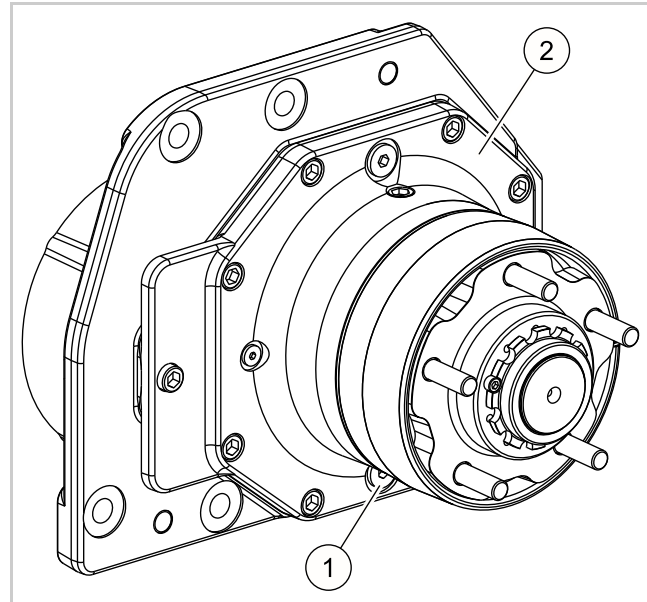

Fig. 12 (24671-01)
7. Remove the drain plug (1, Figure 12) from the drive unit (2) and let the gear oil drain into a catch pan.